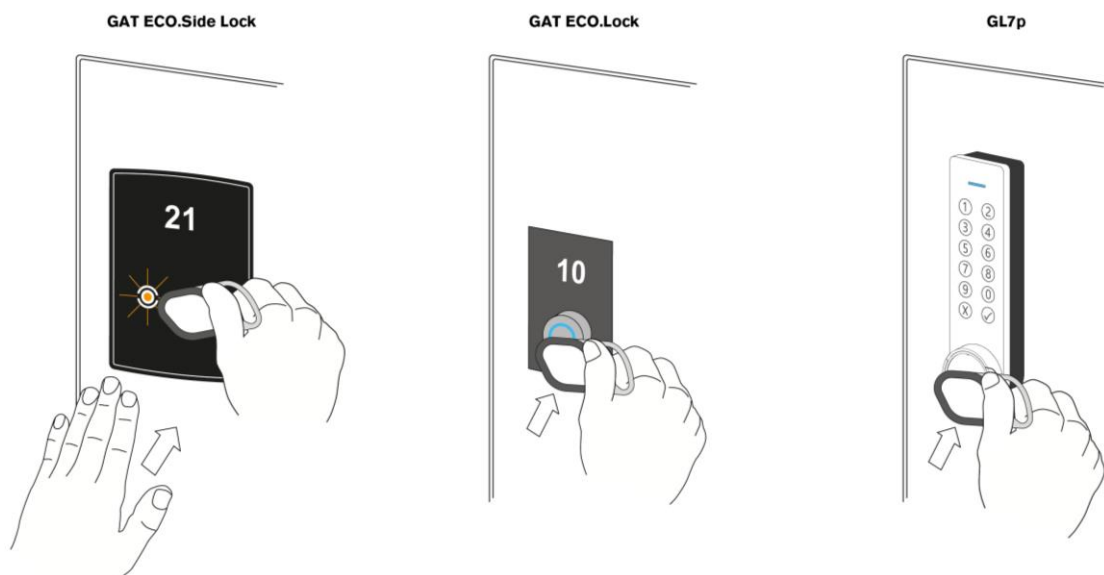

Figure 3.1 – Activating the electronics and RFID reader of the lock
- ▶ Activate the lock with the PROGRAMMING data carrier (see Figure 3.1).